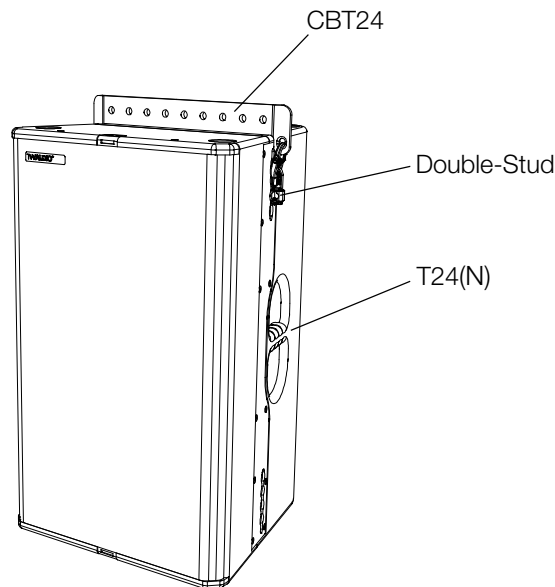

Figure 4.5 - Mounting CBT24 cradle bar for flying to T24(N) loudspeaker
4.5 Preparing T24(N) loudspeaker
Attach the CBT24 cradle bar for flying to the T24(N) loudspeaker, or to the top T24(N) loudspeaker in an array application, as shown in figure 4.5.